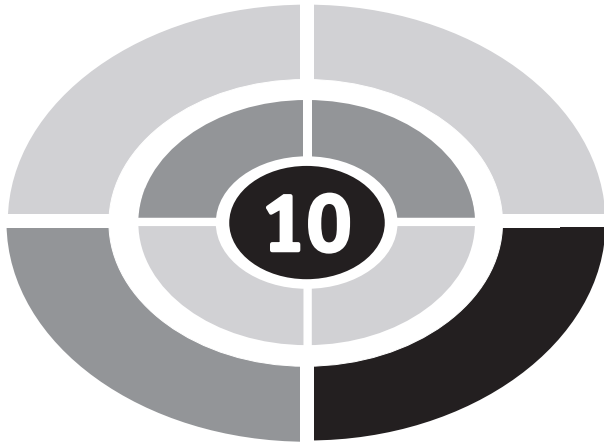

**Fig. 9-17.** Illustration for Quiz Questions 1 and 2.
1. What does Fig. 9-17 represent?
2. What is the approximate bandwidth of the signal shown in Fig. 9-17?